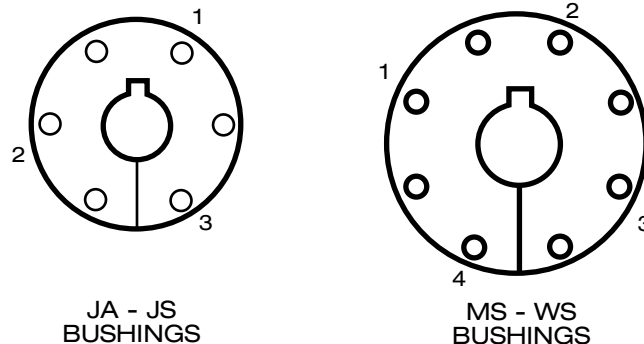

Figure 1
5. Using a torque wrench and recommended torque (see Table 1) tighten cap screws alternately and evenly in one bushing only. Use the numbered sequence on the bushing flange cap screw heads in Figure 1, starting with 1 first, 2 second, and so on, with all cap screws being used until the specified torque no longer turns the cap screws. **DO NOT OVERTIGHTEN.** Over-tightening may damage the hub threads.